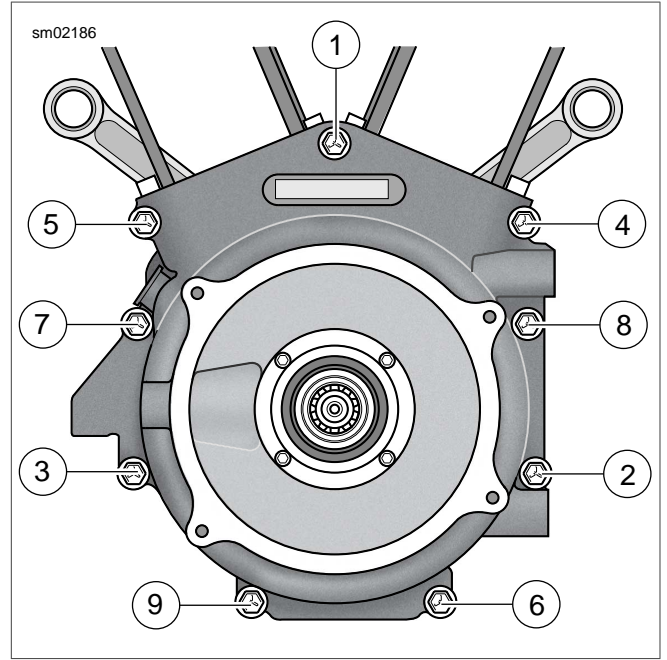

Figure 3-53. Crankcase Bolt Sequence
4. See Figure 3-53. Remove the nine crankcase bolts in the sequence shown.